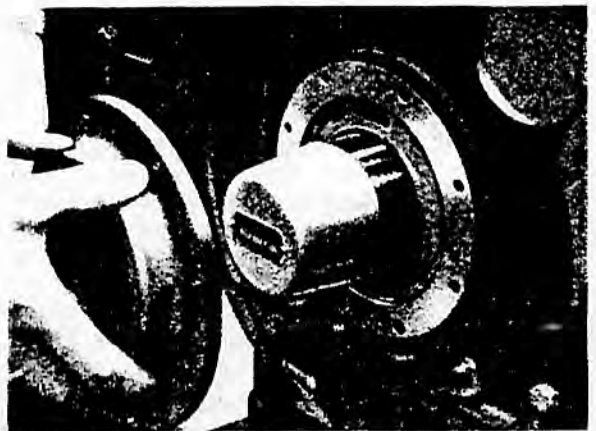

FIG. 149 GUIDING REAR OIL SEAL AND COVER ASSEMBLY ON TO CRANKSHAFT WITH SERVICE TOOL MF105C/1
- 8. Slide rear oil and cover assembly on to spigot of crankshaft, using Service Tool MF105C/1, well oiled, as guide to prevent damaging the seal. See Figure 149.